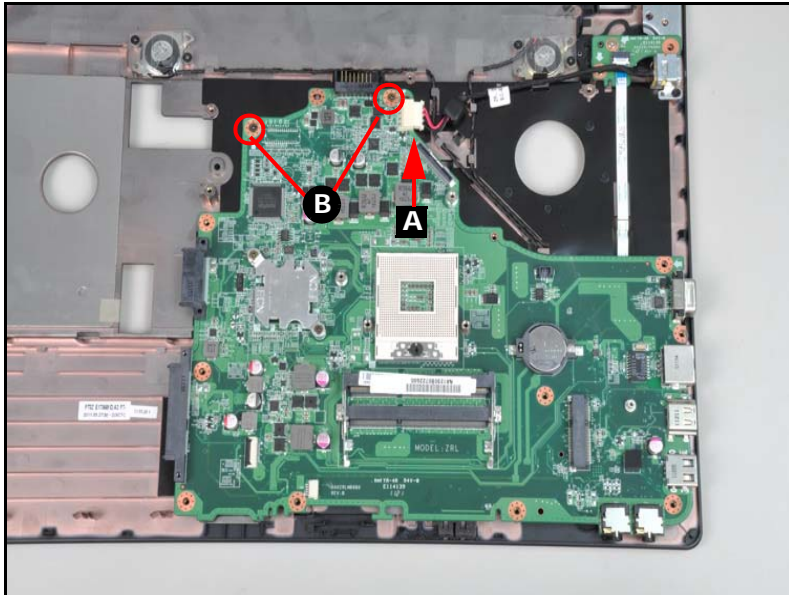

Figure 3-27. Mainboard Location
1. Find the mainboard on the lower case (Figure 3-27).
2. Disconnect the speaker cable from the mainboard connector (A) (Figure 3-27).
3. Remove two (2) screws (B) from the mainboard (Figure 3-27).
1. Place the mainboard onto the lower case (Figure 3-27).
2. Install and secure two (2) screws (B) to the mainboard (Figure 3-27).
3. Connect the speaker cable to the mainboard connector (A) (Figure 3-27).